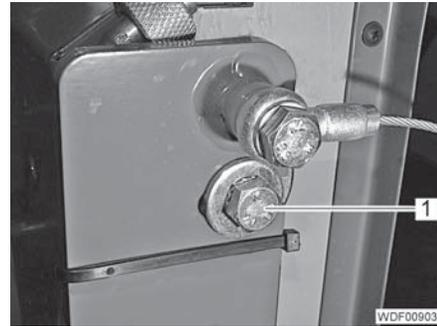

Fig. 76 Side attachment of the radiator
- Undo 1 screw (Fig. 76,1) on both sides of the radiator, but do not unscrew them completely.